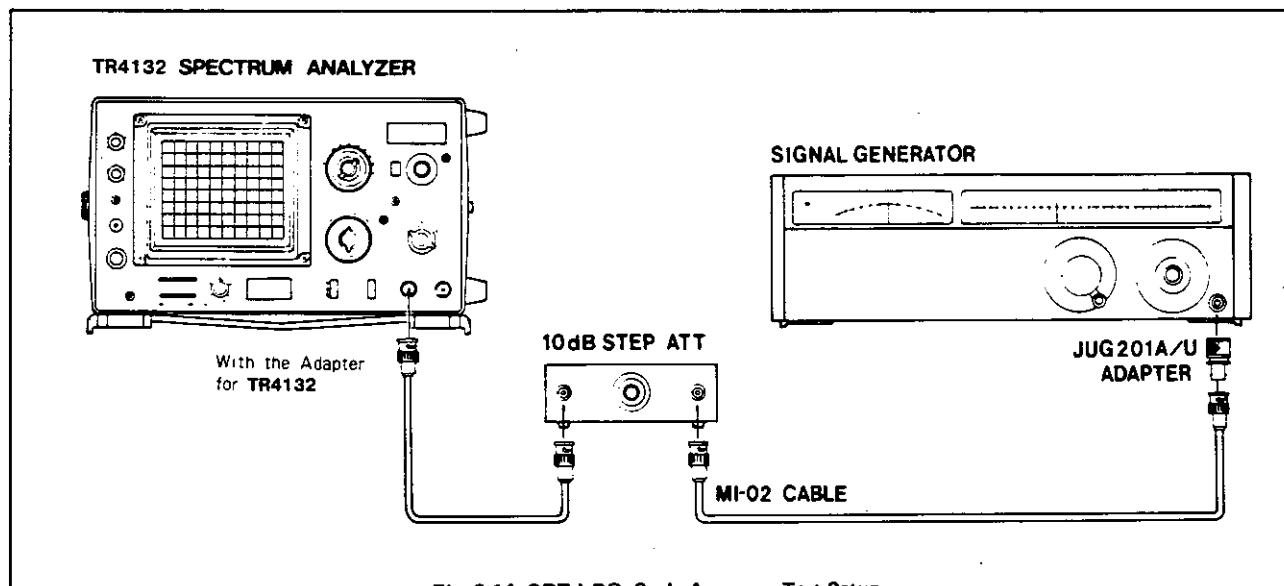

Fig. 3-14 CRT LOG. Scale Accuracy Test Setup
- (1) Reset specific controls from the initial settings (Para 3-3-1-(3)) as follows:
- (2) Set the Signal Generator output to 100MHz/ $95\text{dB}\mu$  and the Attenuator to  $0\text{dB}$  respectively and connect to **INPUT** of the instrument as shown in [Fig. 3-14].